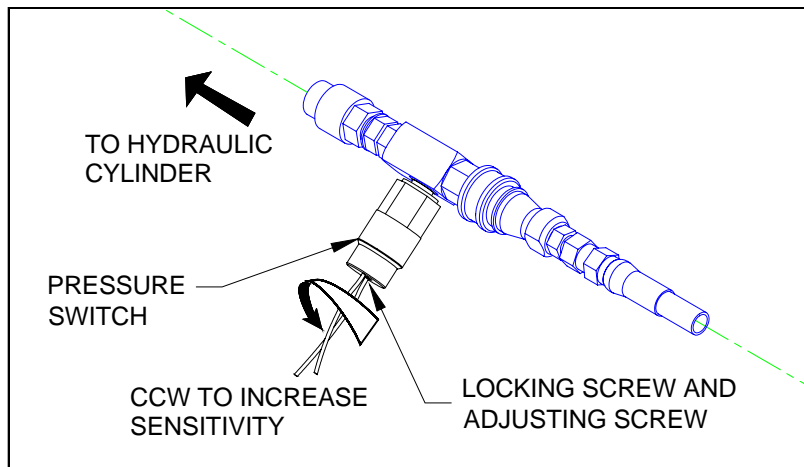

FIGURE 2-7: ANTI-STOW PRESSURE SWITCH
- a. Refer to **Figure 2-7**. The pressure switch adjusting screw is located at the top of the body, between the two lead wires. There is a locking set-screw (requires hex key) above the adjusting screw, which must be removed to carry out pressure switch adjustments.